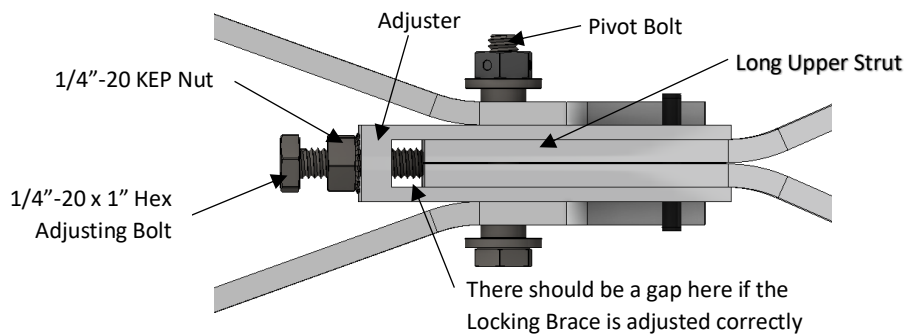

Figure 2
3. Using a 7/16" wrench, loosen the 1/4"-20 KEP nut on the adjusting bracket of the first Locking Brace Assembly to be replaced as indicated in Figure 2.
4. Loosen 1/4"-20 x 1" hex bolt (Figure 2) until the tension in the Locking Brace Assembly is relieved and the pivot joint of the Locking Brace Assembly moves freely.t
1. With the WAL-BOARD® Aluminum Folding Bench upside down on a flat level surface and the Permanent Leg Assemblies in their fully open position locate the adjuster on one of the Locking Brace Assemblies indicated in Figure 2.
2. With the Permanent Leg Assembly in its fully open position, loosen the 1/4"-20 KEP nut a few turns as indicated in Figure 2.
3. While maintaining the center pivot joint of the Locking Brace Assembly in its fully extended position, thread in the 1/4"-20 x 1" hex adjusting bolt until the threaded end of the bolt is finger tight against end of the long upper struts as indicated in Figure 2.